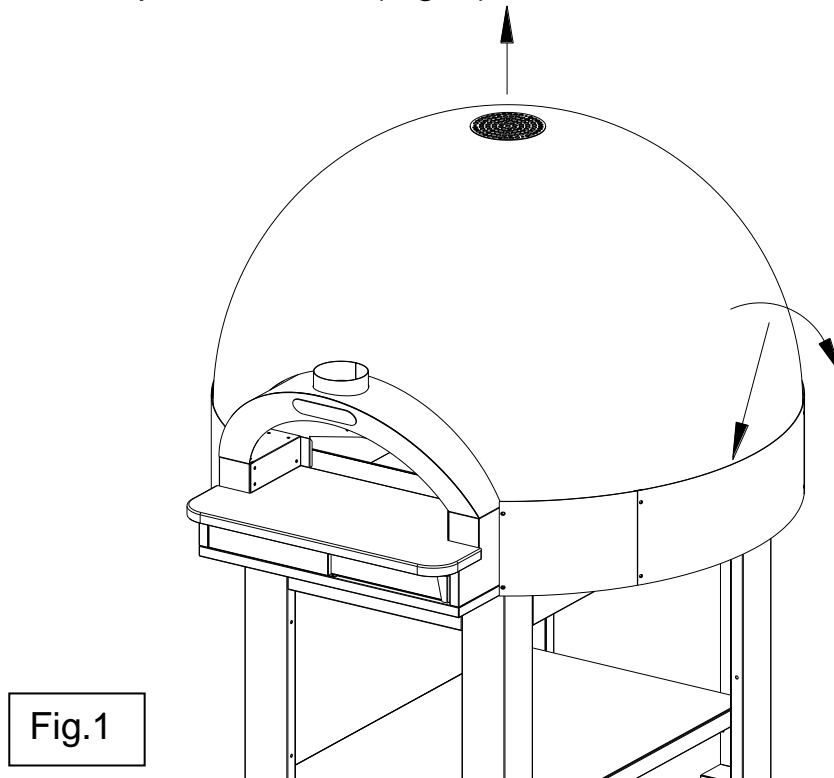

Fig.1
- 1- Using a screwdriver, gently lift the dome from the side edge and remove it with an upward motion (Fig. 1).